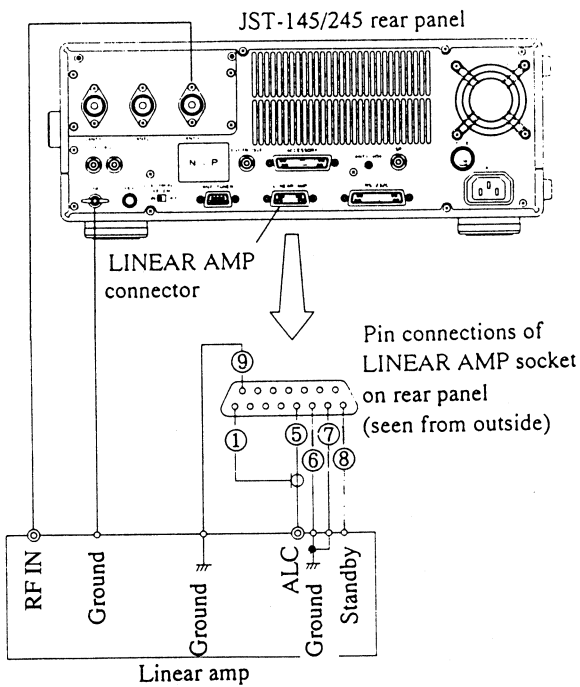

Figure 1-12 Connection of Linear Amp
Connect the optional CFQ-4794 control cable to the LINEAR AMP connector ⑦0 on the rear panel of the JST-145/245 to use JRC's JRL-2000F linear amp. See Figure 1-12 for how to connect a linear amp other than the JRL-2000F.